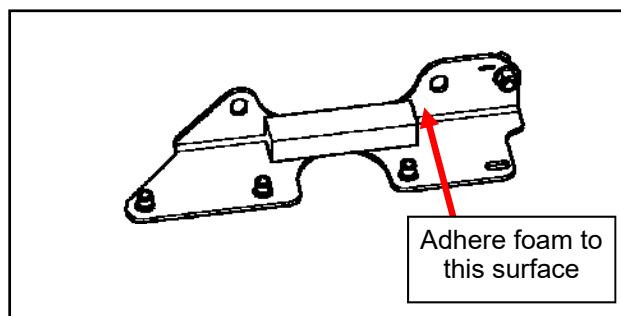

Fig. 8.1 (Gas spring bracket foam)
8.1 Cut the supplied piece of 1" x 3/4" foam in half to make two pieces approximately 4 inches long. Per figure 8.1, apply the foam to the center of the inside corner of the left and right gas spring brackets.